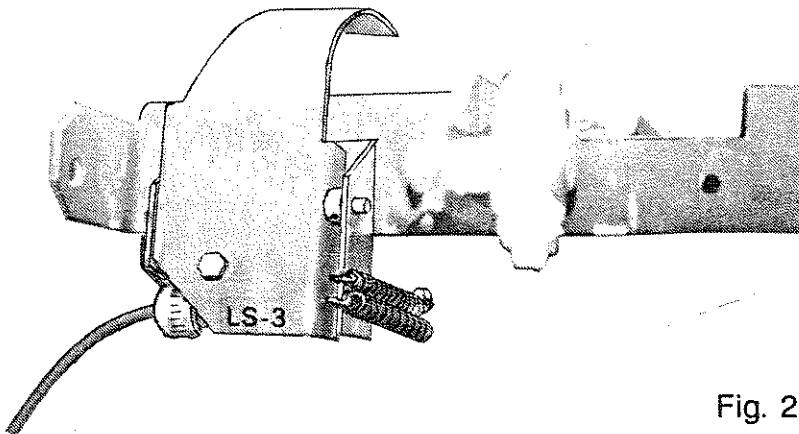

Fig. 2
6. Attach the micro switch LS-3 assembly to the front pusher table assembly. The micro switch LS-3 assembly includes the following: one F278 spring, one ZZ2016 3/8" set collar, one OPR23928 front pusher table switch operator, one 11-260 pin, one 11-258 bracket, and one 03-158 micro switch. See Fig. 2 and page six in the parts section.